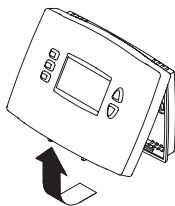

Figure 1
2. Separate the thermostat from the wallplate as per Figure 1.